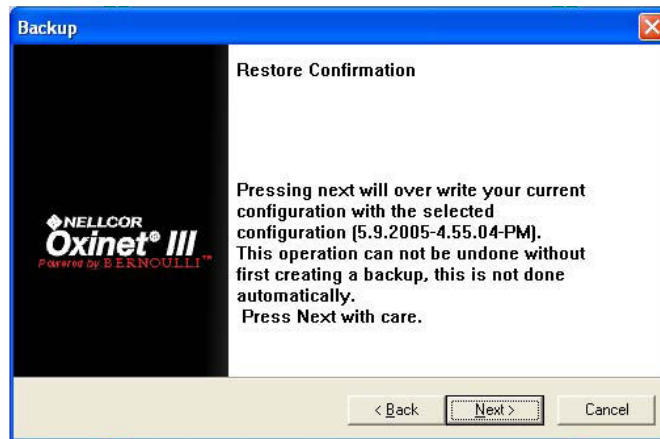

Figure 19: Restore Function — Confirm the Version
- 7 You will then be asked to confirm your version selection (Figure 19). Press or click the **Next** button to continue. Or, if you have selected the wrong version, click the **Back** button to return to the prior screen.